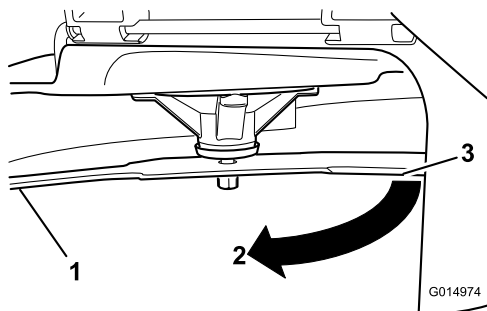

Figure 77
4. Rotate the same blade 180 degrees so that the opposing cutting edge is now in the same position (Figure 77).